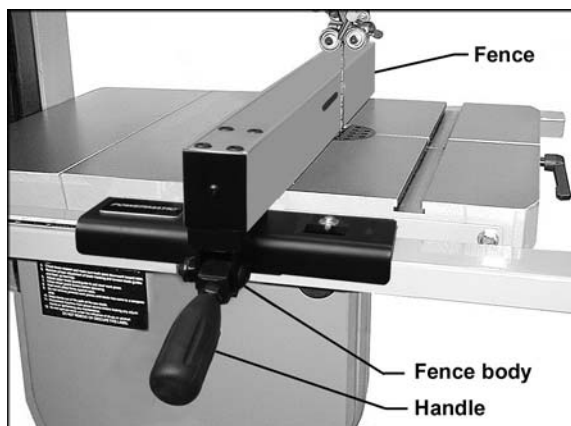
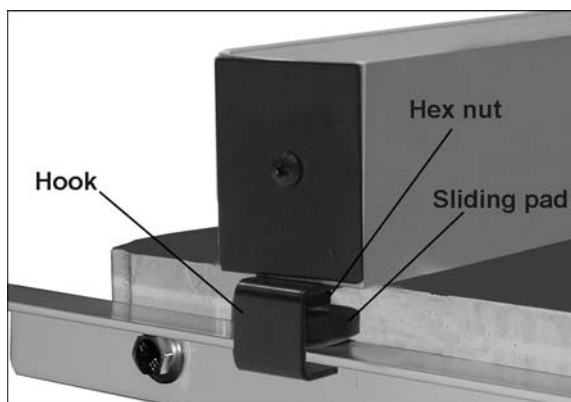

Figure 28
Figure 29
3. Lift up the fence handle and hook the fence assembly over the rear rail, and onto the guide rail, as shown in Figure 28. The sliding pad (Figure 29) should ride along the top of the rear rail. To adjust, loosen hex nut and rotate sliding pad as needed. Retighten hex nut.
Refer to Figures 29 and 30.
4. Adjust the height of the sliding pad at the rear of the fence (Figure 29) if further adjustment is needed to even the gap along the length of the fence.